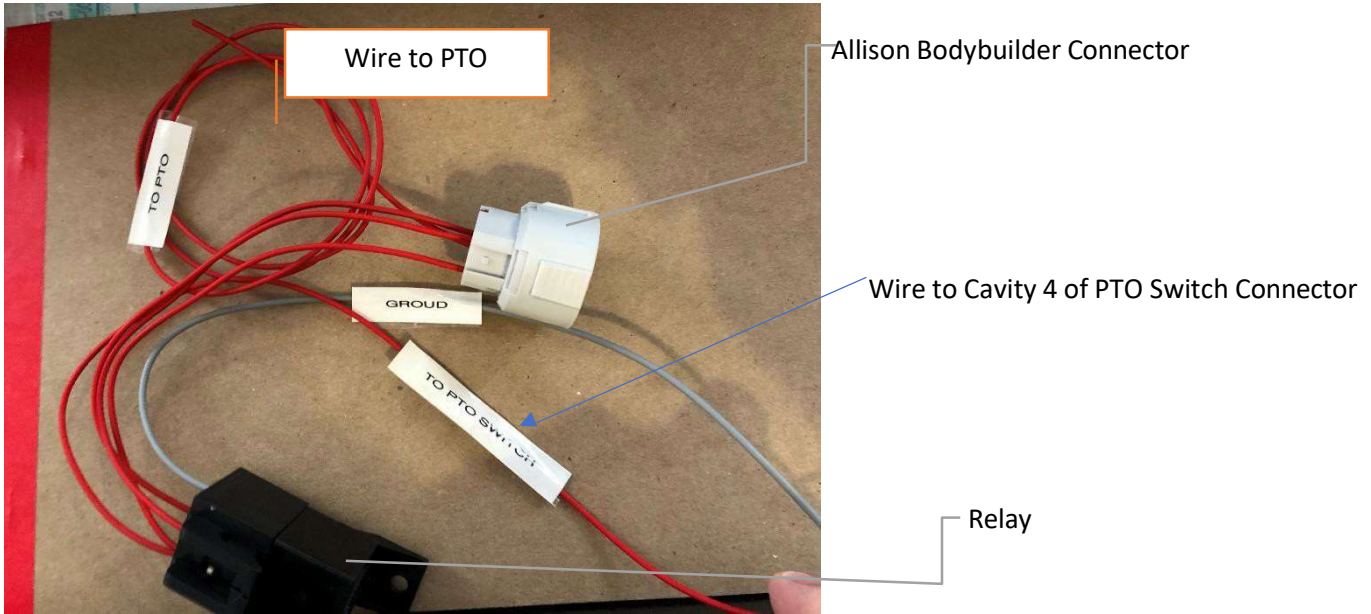

Figure 15 Allison BB Connector and Relay Wiring
8. The Completed Wiring should look like Figure 15, Connect the Allison BB Connector to the Main Cab Harness Allison BB Connector and secure the relay to the Allison BB Connector Cab harness using Tie Wrap.